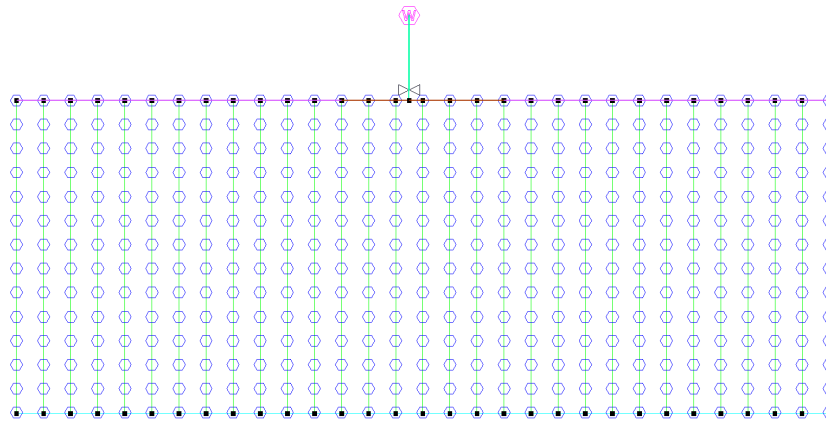

Figure 4-43
25. You can now size the mainline, to do this select *Design|Mainline Design|LP Design*. IRRICAD will then size the mainline and calculate the water supply pressure necessary to ensure that the zone control valve receives the required upstream pressure. You should have results similar to Figure 4-43.